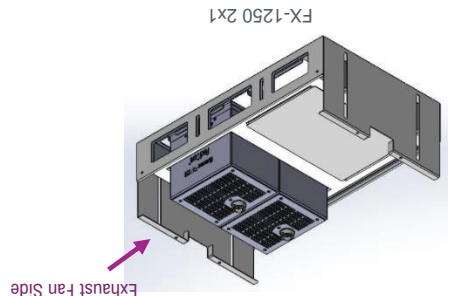
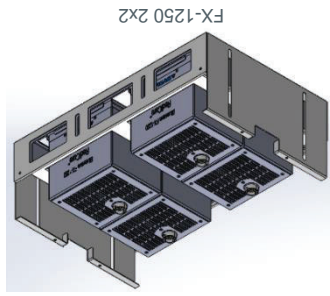

Figure 23.
Figure 22.
- 4) For 1x1, 1x2 horizontal, and 2x1 vertical configurations, it is advised to place the emitters on the side closest to the exhaust fan. (Figure 22, & Figure 23.)